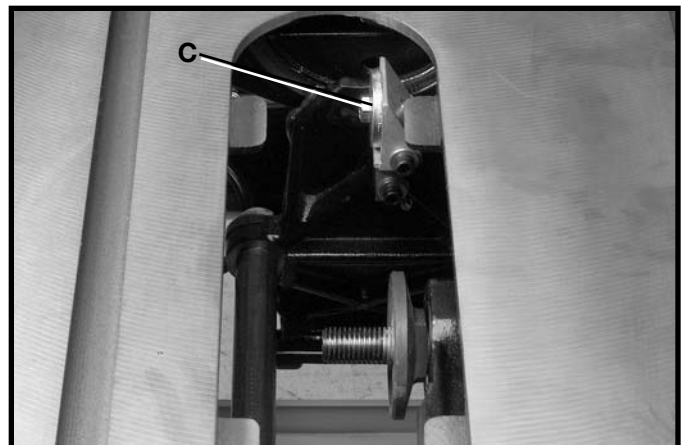

Fig. 27
3. Remove screw and large washer (C) Fig. 27, from the inside splitter mounting bracket.